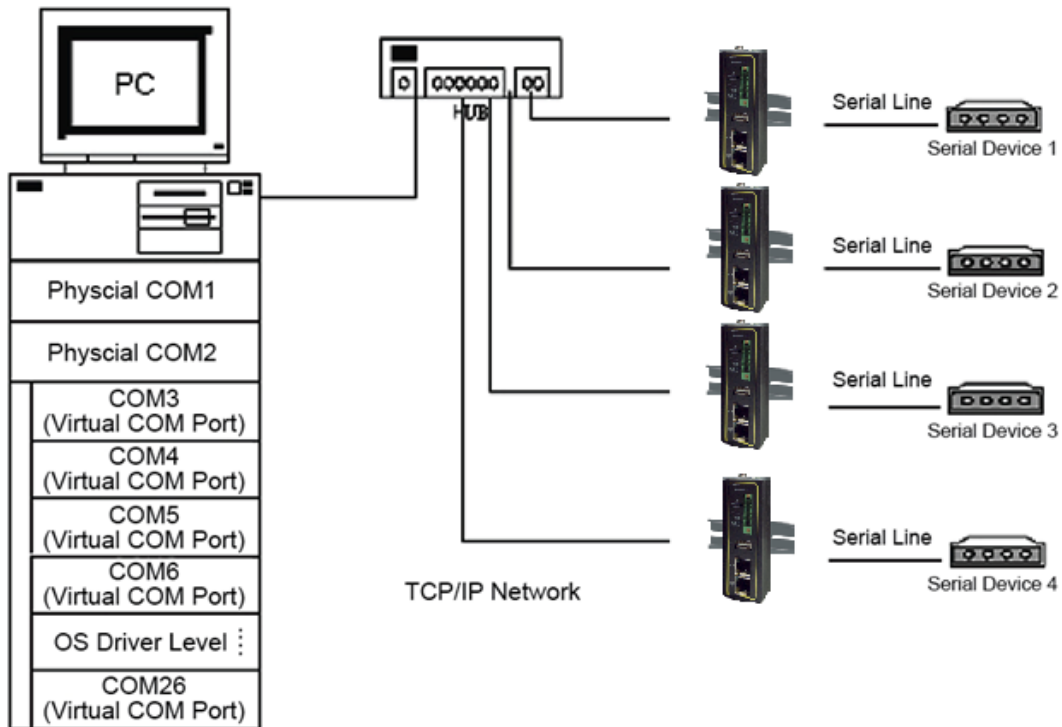

Figure 6.3 An Example Diagram of Virtual COM Application over TCP/IP Network
Virtual COM on host computer allows remote access of serial devices over TCP/IP networks through Serial/IP Virtual COM ports that work like local native COM ports. Figure 6.3 is an example of Virtual COM application diagram. In the diagram, multiple serial servers (i.e. SE5201B devices) in which each one connects to serial device are connected over an Ethernet hub. Their serial devices can be accessed through the TCP/IP network of the hub. Note that there are traditionally only two Physical COM ports (COM 1 and COM 2) on the personal computer (PC) while there can be several Virtual COM ports such as COM 3, 4, 5, and so on. In SE5201B case, the TCP/IP network can be wired network such as Ethernet.